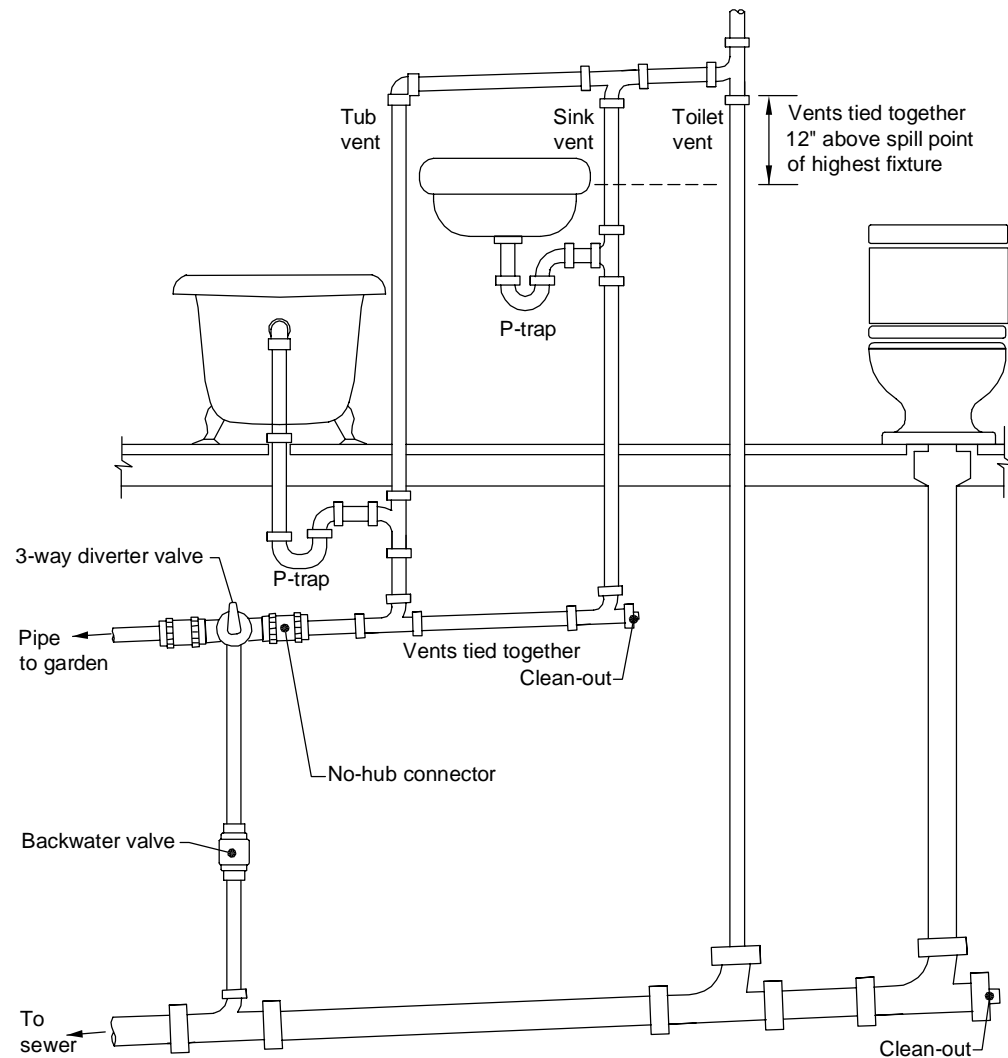

Figure 7. Location of the 3-way valve in a shower or sink system.
3. Install a 3-way diverter valve in the drainpipe of the fixture you will be collecting graywater from (Figure 7). The valve must be installed after the p-trap and vent but before the connection to a toilet or kitchen sink drain. If you must install the valve in an inaccessible area because of space considerations, for example, in a small crawlspace, you can add a motor (called an actuator) to the valve and connect it to a switch in the bathroom or other convenient location.